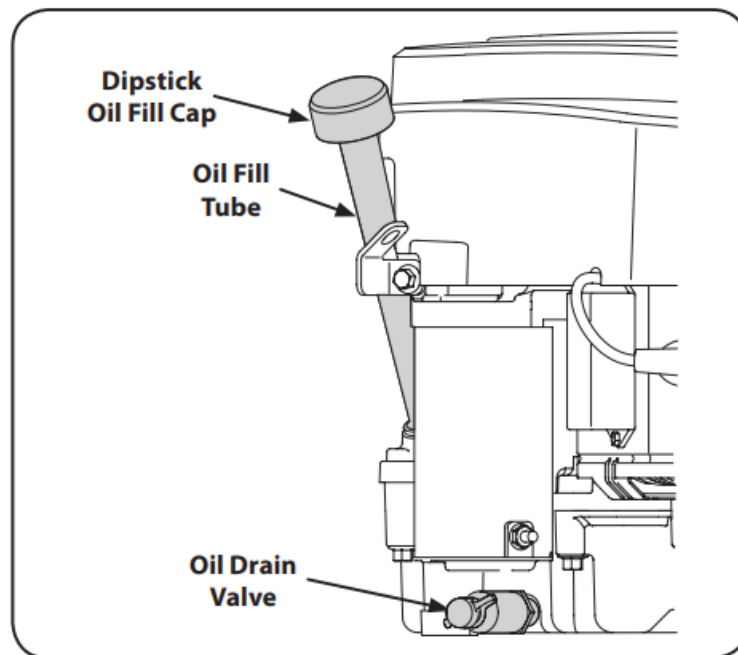

Figure 6-1
3. Pop open the protective cap on the end of the oil drainvalve to expose the drain port. Refer to Fig. 6-1. Remove the oil fill cap/dipstick from the oil fill tube.